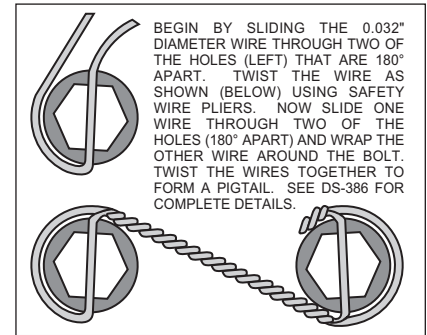

Figure 8. Safety Wire Diagram
- Determine that the appropriate snap ring style Green bearing has been installed on the axle. Remove snap ring from bearing and slide retainer (2) (full circle retainers only, "U" retainers can be installed later) and caliper mounting bracket assembly (1) onto axle and over bearing assembly. Reinstall snap ring (this can also be accomplished at the time of bearing installation on axle without the removal of the snap ring). Insert axle with caliper mounting bracket assembly into axle end. Align bracket (1) and retainer (2) with the five holes in the axle end and secure using the stock Original Equipment Manufacturer (OEM) bolts and nuts. Stock OEM hex nuts that retain the caliper mounting bracket assembly (1) and retainer (2) should be on the wheel side of the bracket. Apply red *Loctite*® 271 to the stock OEM bolt threads and torque to OEM specifications. Make sure the heads of the caliper mounting bracket assembly (1) insert nuts are FACING OUTWARD TOWARDS THE WHEEL.
- With the larger I.D. side of the rotor (4) facing away from the hat (3), bolt rotor (4) to hat (3) through the backside of the rotor using washers (5) and bolts (6). Torque bolts (6) in an alternating sequence to 103 **in-lb**. Safety wire bolts (6) using standard 0.032 inch diameter stainless steel safety wire as shown in Figure 8. Please refer to Wilwood's data sheet DS-386 (available at [www.wilwood.org/ds386.pdf](http://www.wilwood.org/ds386.pdf)) for complete safety wire installation instructions.
- Align the correct hole pattern in the hat (3) with the stud pattern on the axle flange. **NOTE:** Some OEM and aftermarket axles come with stud sizes larger than 0.50" diameter. Verify stud size and have a qualified machine shop drill the hats to the correct size, if necessary. Slide the hat/rotor assembly (3 and 4) over the wheel studs covering the bracket kit assembly (1) and against the axle flange face. Check to be sure the hat seats squarely against the hub. Install a couple of lug nuts (finger tighten) to keep the rotor/hat assembly in place while continuing with the installation.